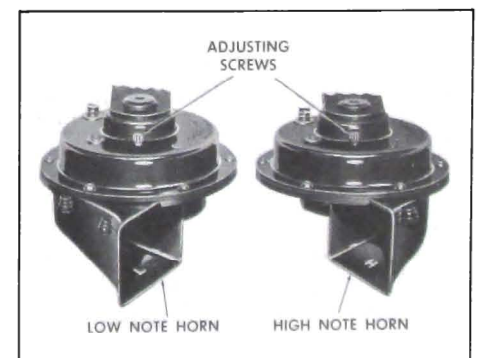

Figure 10-69—Matched Horn Set
3. Adjust to specified current draw if necessary, by turning adjusting screw clockwise to decrease or counterclockwise to increase current draw. See Figure 10-69.